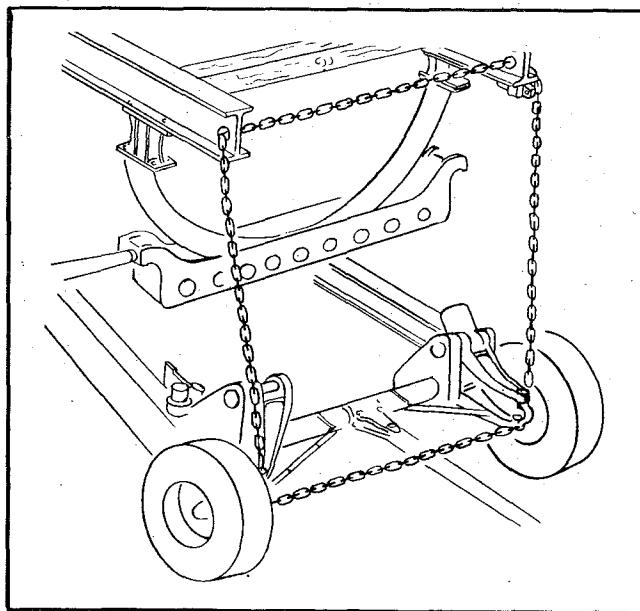

Figure 3-24. Lift Test
(See figures 3-24 and 3-25.)
- LIFT TEST (See figure 3-24).